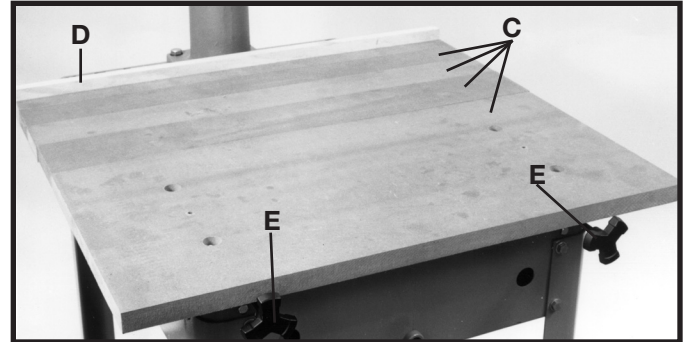

Fig. 28
2. Place the remaining loose boards (C) Fig. 28 and fence (D) on the table mounting brackets, and tighten the two table clamp rod knobs (E). Fence (D) can be repositioned as required.